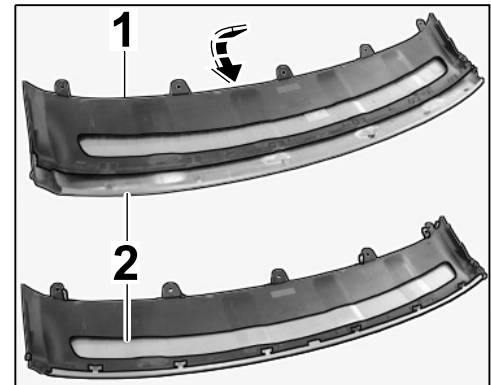

Figure 11
2.4 Install front spoiler on the skid plate (⇒ *Figure 11*).